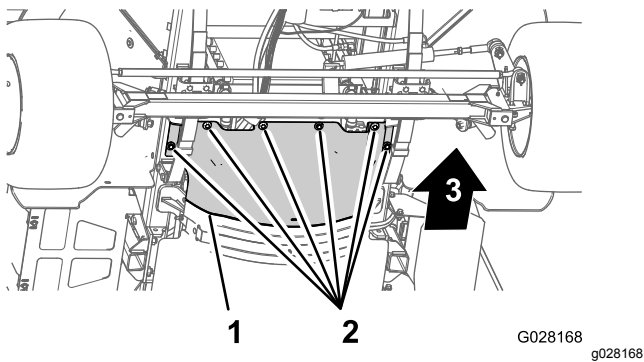

Figure 3
3. Remove the 6 hex-head bolts and 6 washers that secure the front, forward heat shield to the chassis and remove the shield (Figure 3).